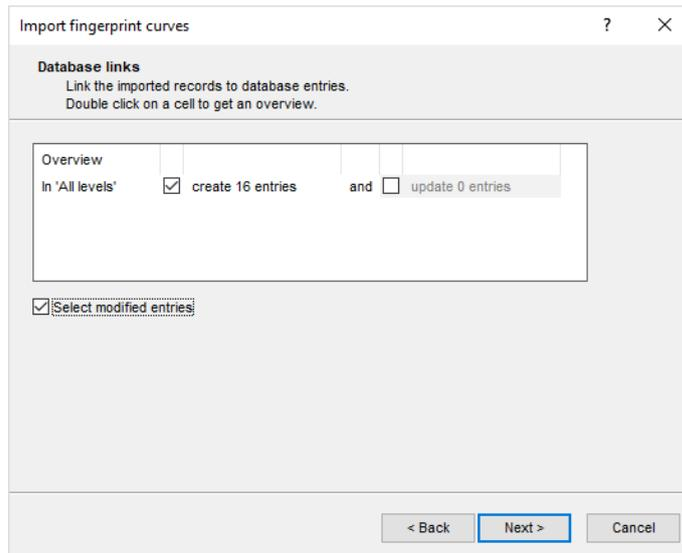

Figure 9: Database links.
22. Press <Next> to confirm the creation of new entries (see Figure 9).